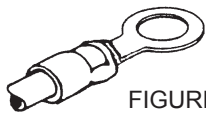

FIGURE 3
- 1.4 SEE FIG. 3 FOR A REPRESENTATION OF A CRIMPED INSULATED LUG.